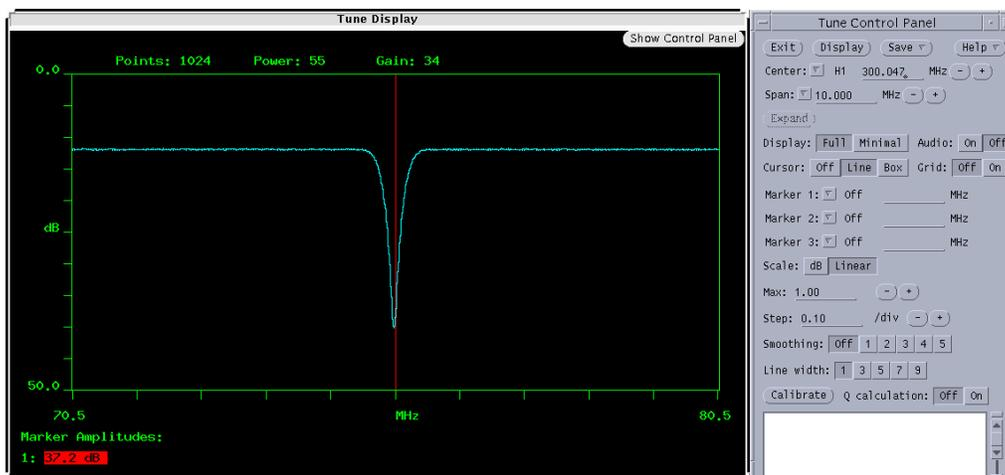

Figure 23. Probe Tuning Window (qtune Program)
This section describes how to use the graphical probe tuning program, `qtune` (shown in Figure 23), for swept-tune-type NMR probe tuning. `qtune` is available on ^{UNITY}INOVA and UNITY*plus* systems.
The Tune Display and Tune Control windows open, similar to Figure 23. The Tune Display is centered on the resonant frequency of the current experiment (`sfrq`).
- Full display shows the network-analyzer-like graph, as shown in Figure 23.